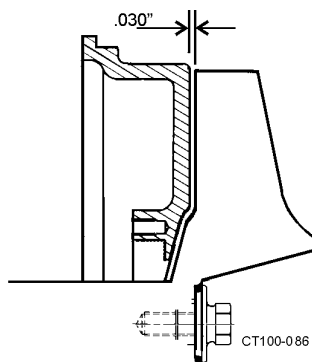
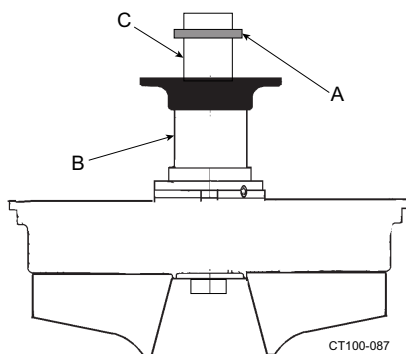

Figure 33 - Clearance Between Impeller and Backplate
Figure 34 - Locations of Shims
14. Check the space between the back of the impeller and the backplate with a feeler gauge (0.030" nominal) while holding the backplate tight against the bearing housing flange. (Any axial movement of the shaft should not be added to the 0.030" nominal clearance) (Figure 33). If needed, change this clearance by adding or removing shims. Shims (Figure 34, item A) are added on the drive shaft (Figure 34, item C) behind the impeller shaft (Figure 34, item B).